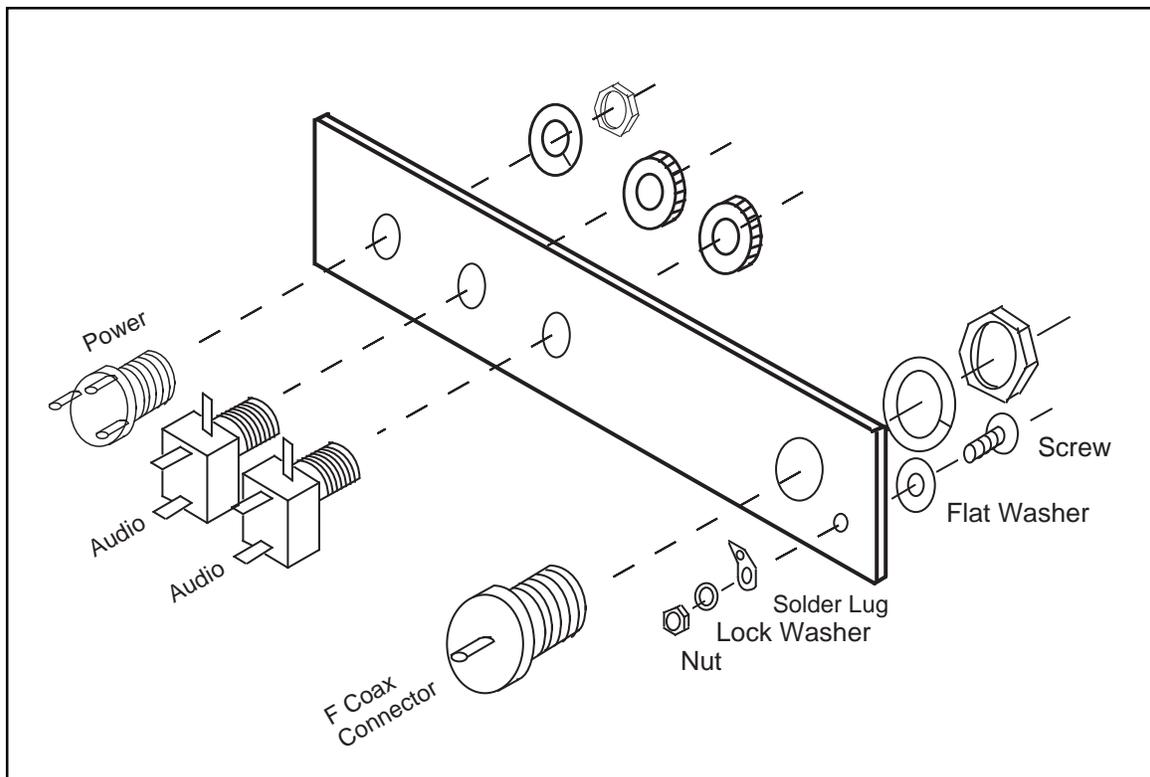
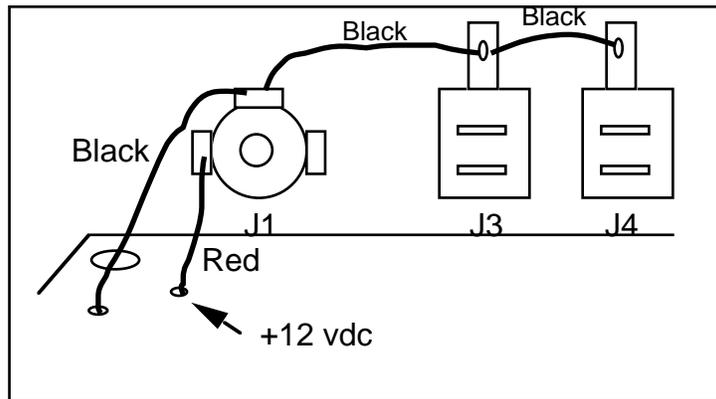

Figure 9. Rear panel assembly
Figure 13. Rear panel power jack (J1) wiring detail
7. □ Mount the power connector, two audio jacks, the antenna connector, and a solder lug to the rear panel (Figure 9). All connectors are passed through the panel from the “inside” with washers and nuts located on the decal side of the panel. Tighten the nuts firmly with a crescent wrench or pliers, being careful not to slip and cut the decal.
12. Be sure that the power connector is installed as shown in Figures 9 and 12. Looking at the connector from the PC board side of the back panel, there should be one solder lug at 9 o'clock, one at 12 o'clock, and the third lug at the 3 o'clock position. Install a red wire to the power connector (9 o'clock lug) and PC board (Figure 13). Install black wires linking the PC board ground plane to the power connector and the vertical lugs on both J3 and J4 as seen in detail below. This will complete the soldering portion of the receiver kit assembly. Before proceeding, visually inspect the board for any missing components or solder bridges.